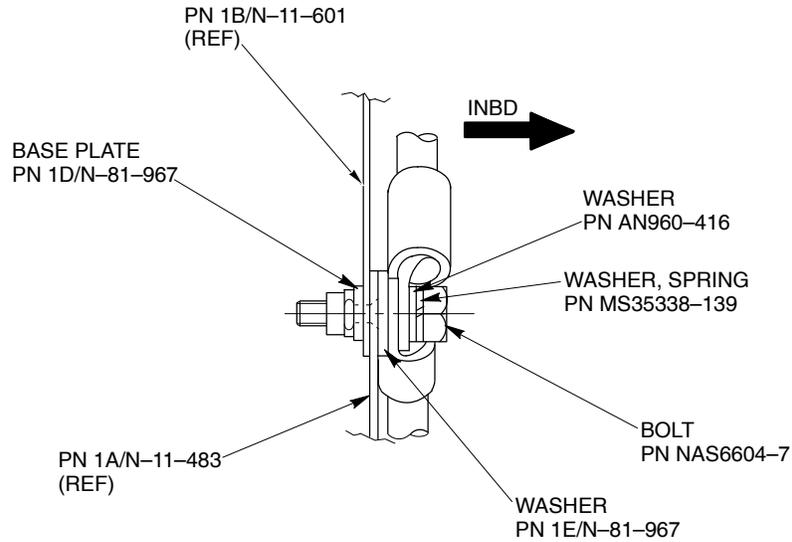

Figure 3 Battery Power Leads Base Plate/Stud Assembly
- (14) Assemble leads P2A2N and P2B2N to Base Plate 1D/N-81-967 using washers PN 1E/N81-967 adjacent to 1B/N-81-483, AN960-416 and MS35338-139 and bolt PN NAS6604-7 (Ref Fig 3).